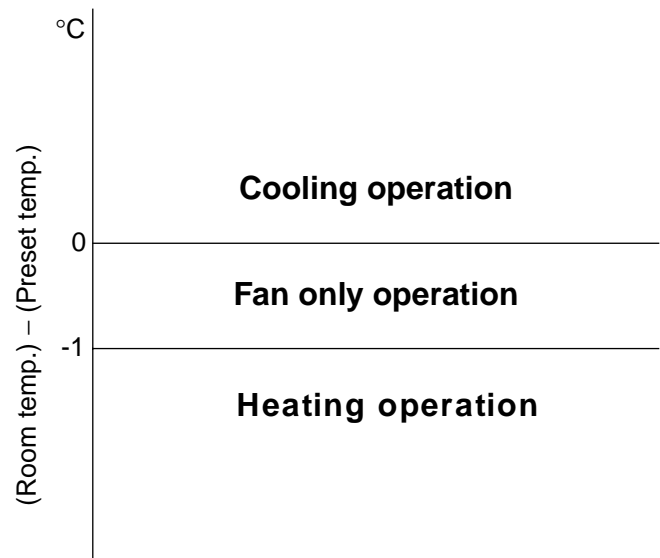

Fig. 7-3-9
- One of 3 operations (Cooling, Fan only or Heating) is selected according to difference between the preset temperature and the room temperature at which the automatic operation has started, as shown in Fig. 7-3-9. The Fan only operation continues until the room temperature reaches a level at which another mode is selected.
When the [RESET] button on the indoor unit is pushed, the preset temperature is fixed at 24°C and the indoor unit is controlled as shown in Fig. 7-3-9.